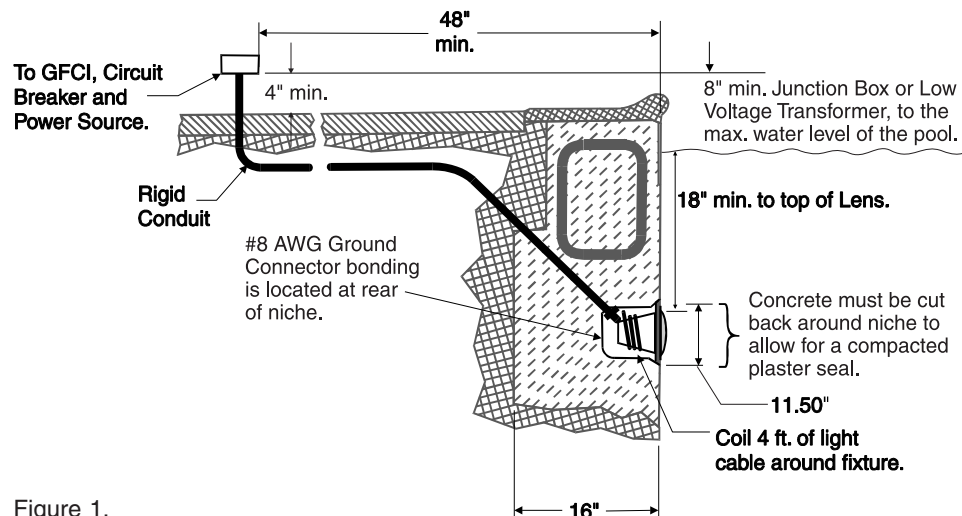

Figure 1.
BEFORE STARTING: The following steps 1-6 (page 3-4) describe the tasks that must be completed by the electrician before the IntelliBrite light fixture is installed. See Figure 1 diagram.
- The Junction Box (or, for 12 volt models, the low voltage transformer) is located at least 8 inches above the maximum water level of the pool and at least 48 inches from the edge of the pool; see Figure 1.
- The wet niche is properly installed so that the top edge of the underwater light's lens is at least 18 inches below the surface of the water in the pool; see Figure 1. (Not more than 20" depth in Canada.)
- The wet niche is properly electrically bonded and grounded via the No. 8 AWG ground connector located at the rear of the niche; see Figure 1.
1. Feed cord through conduit to Junction Box, leaving at least four (4) feet of cord at the light fixture to coil around the light; see Figure 1. The four (4) feet of cord around the light allows the light to be serviced after the pool is filled with water.